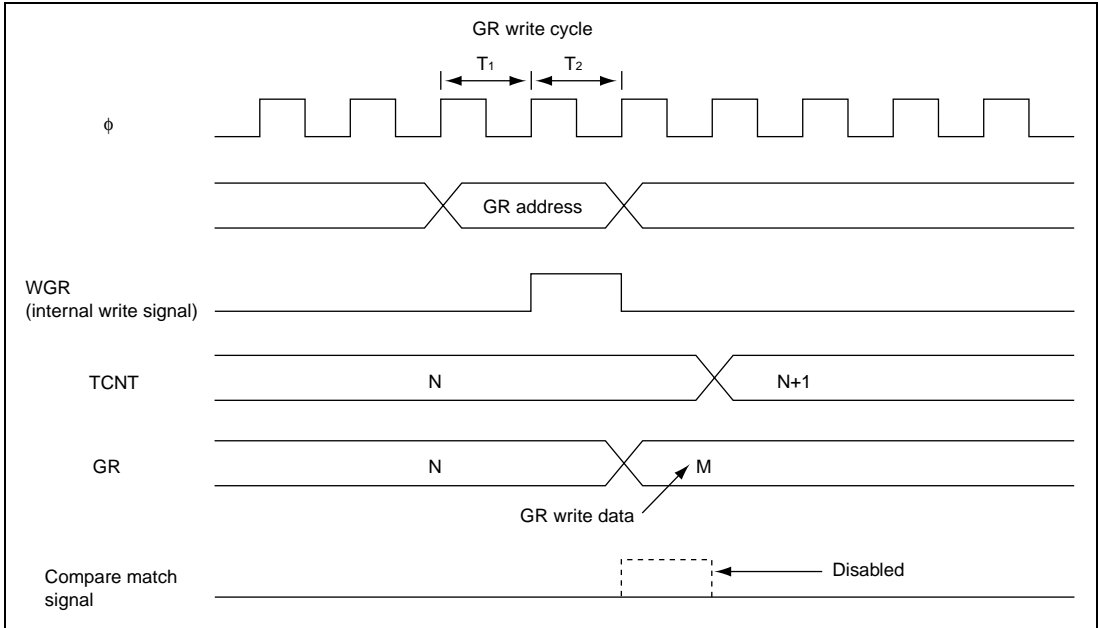

Figure 13.54 Contention between GR Write and Compare Match
- Contention between GR Write and Compare Match: If a compare match occurs in the T_2 state of a GR write cycle, GR write has priority and the compare match signal is disabled. Figure 13.54 shows the timing in this case.